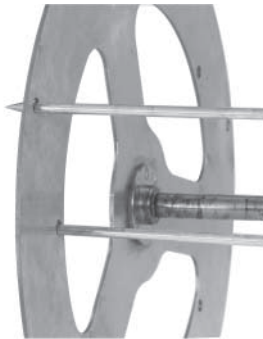

**Fig. 19**
1. Place pointed end of V-spit into outside hole on drive side of rotor (Fig. 19).